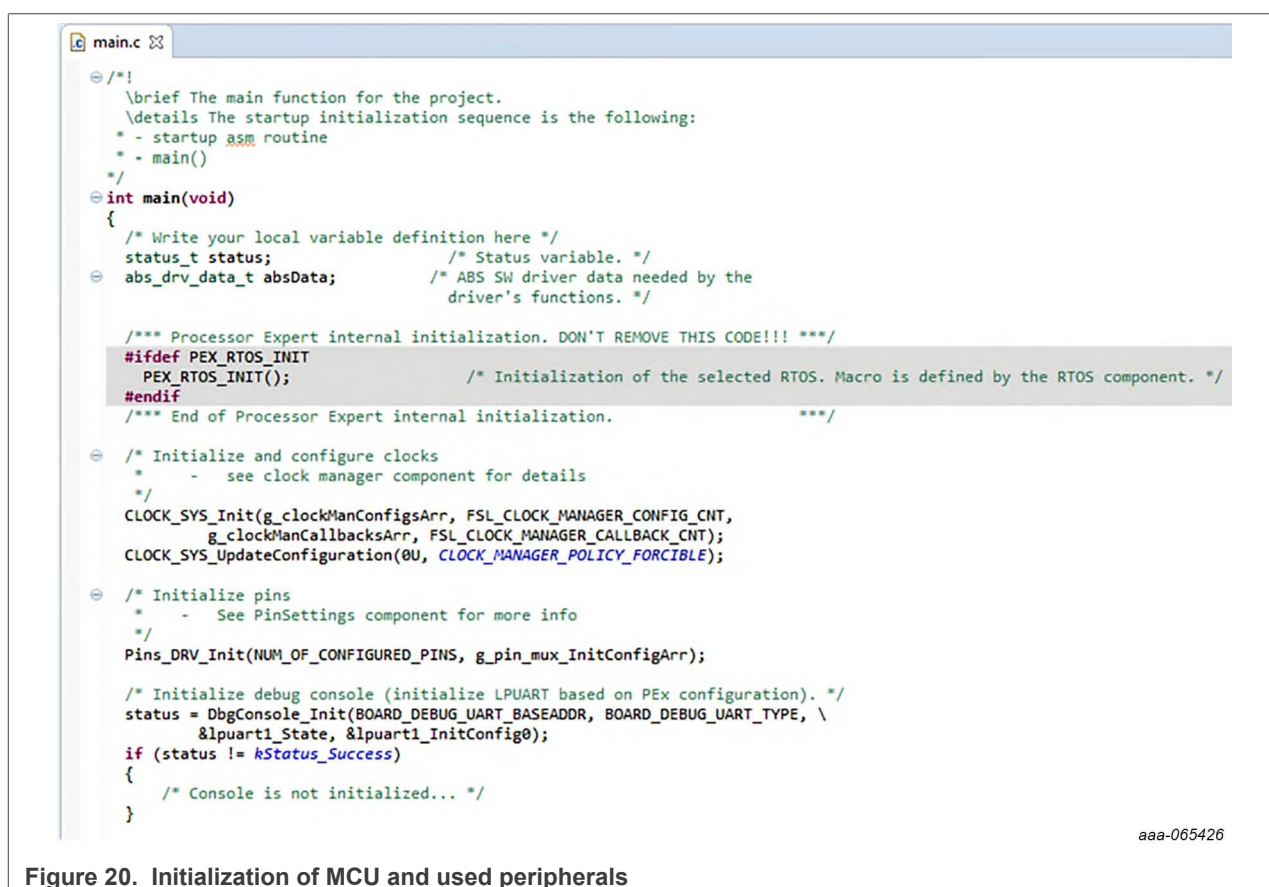

Figure 20. Initialization of MCU and used peripherals
1. Call initialization functions for all used MCU peripherals, except SPI when `ABS_SetupSPI()` is used earlier. Pass pointers to the generated configuration structures found in **.h** files in the **Generated_Code** folder. Figure 20 shows an example of the initialization. The code reuses all previously described steps and assumes that the user has configured clocks, pin muxing, peripherals, generated code, and implemented the ABS SW driver setup function. Refer to the code commentary to understand the implementation.